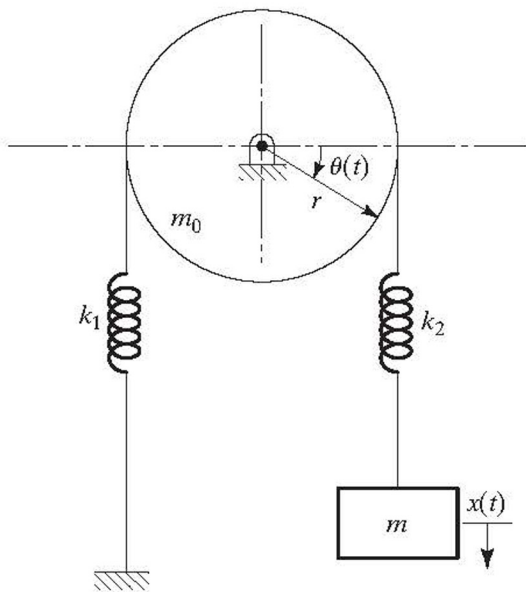

FIGURE 5.39
5.37 Determine the natural frequencies of the system shown in Fig. 5.39 by assuming that the rope passing over the cylinder does not slip.